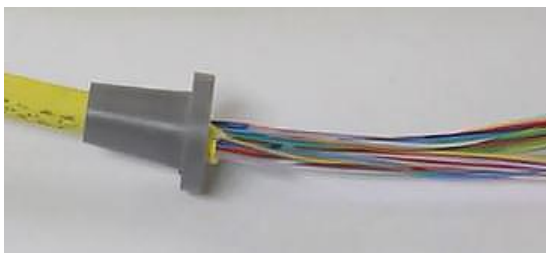

Figure 4
5.2 Install the 3.8 bushing on to the fiber bundle allowing it completely overlap the PVDF jack. The bushing has a slit for this purpose as to not slide over bare fiber. See **Figure 4**